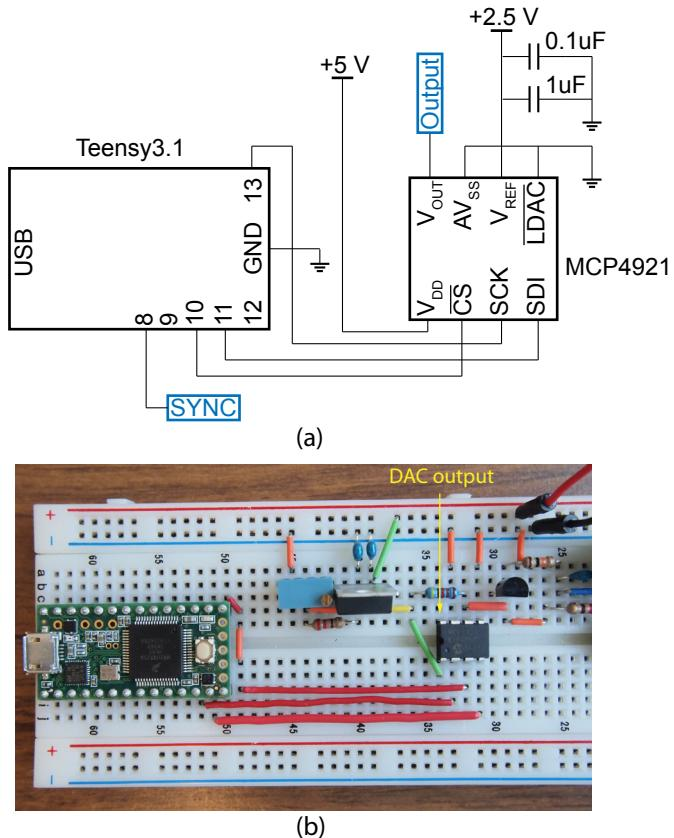

Figure 12: Schematic of the connection between the Teensy 3.2 and the MCP4921.
1. Using Fig. 12-a as a reference, connect the Teensy to the MCP4921 DAC. Connect the MCP4921's VDD pin to the output of the LM317 regulator (5 V). Connect the MCP4921's VREF pin to the LT1009 reference's output (2.5 V). Connect both AVSS and LDAC of the MCP4921 to ground. A 0.1  $\mu$ F and a 1  $\mu$ F capacitor could be used at VREF to minimize noise at the reference. It is very important to keep your circuit (ICs, resistors, capacitors, wires, etc) organized. Use as short of a wire as possible between two connection points. Refer to Fig. 12-b for an example layout.